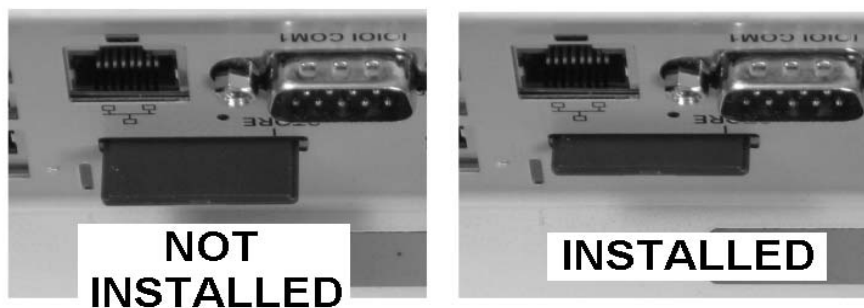

Figure 2: Ensure the CD Card is fully inserted
4. Before reinstalling the SD Card Bracket, make sure the card is fully inserted in the socket. The right side of Figure 2 shows an example of the card fully inserted in the Riser Card socket.